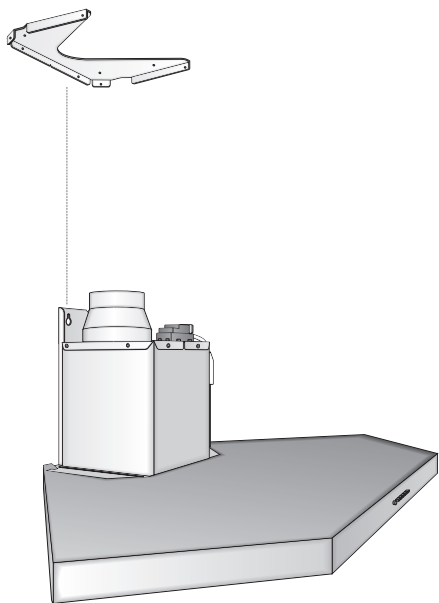

Fig. 10
• POSITIONING THE FILTER DEFLECTOR (Fig. 10)